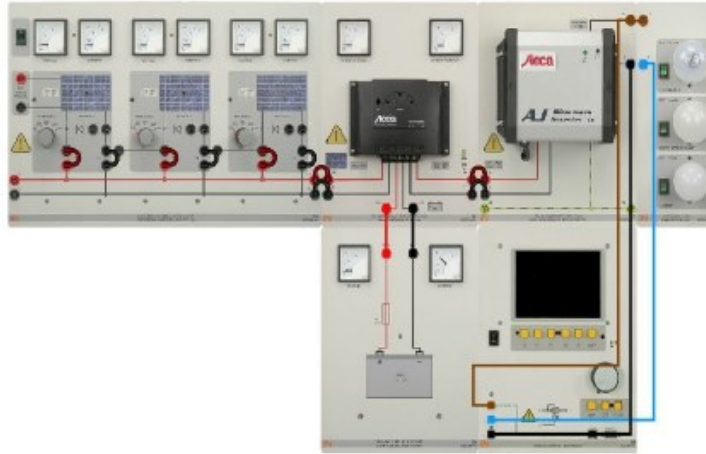

Figure 3.2.2
6. Modify the experiment setup as shown in Figure 3.2.2